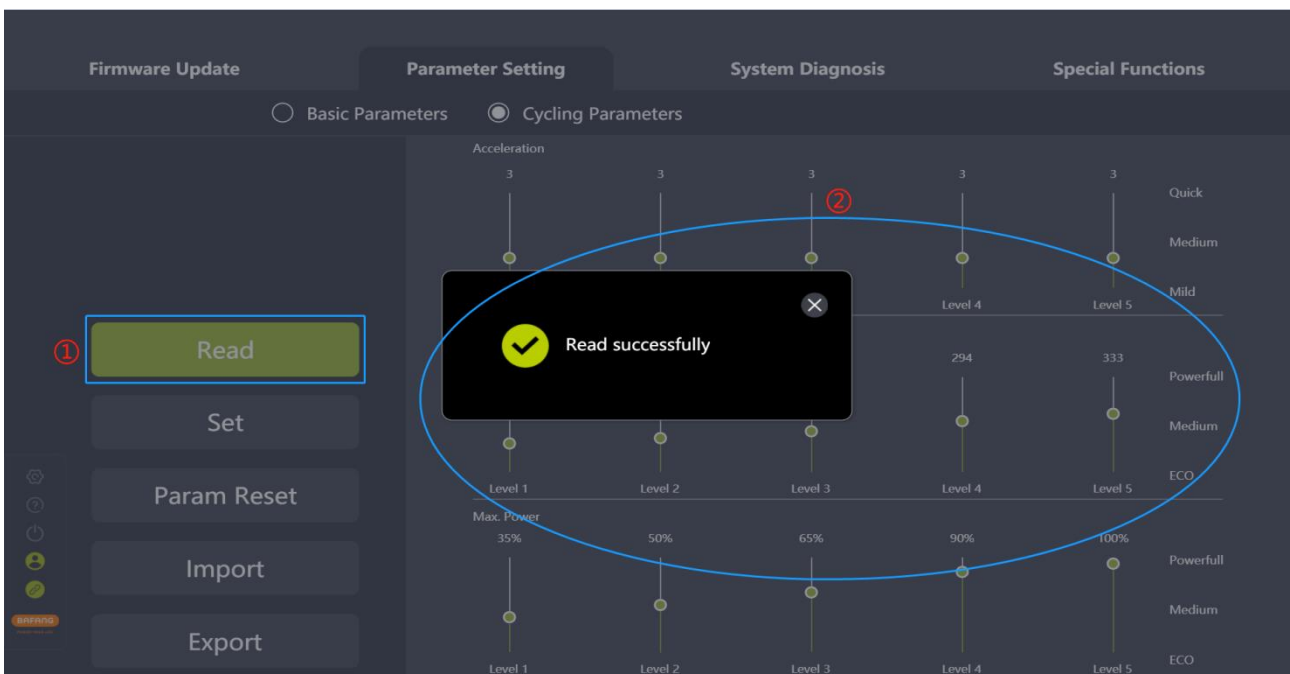

Fig. 5-11 Read
- (1) Confirm that the BESST Box is connected to the controller and click the "Read" icon;
- (2) Each parameter in the interface is displayed as number and slider (e.g. Fig. 5-11).